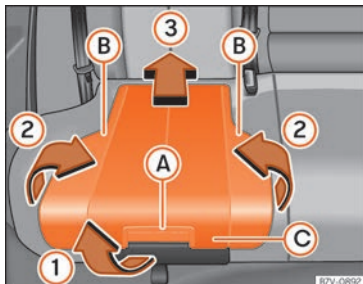

Fig. 95 Embedded child seat: lift up the pillow.
- Pull the unlock lever »» Fig. 95 (A) on the cushion in the direction of the arrow »» Fig. 95 (1).
- Fold both sides »» Fig. 95 (B) up in the direction of the arrow »» Fig. 95 (2).
- Push the cushion »» Fig. 95 (C) back in the direction of the arrow »» Fig. 95 (3) until it engages.